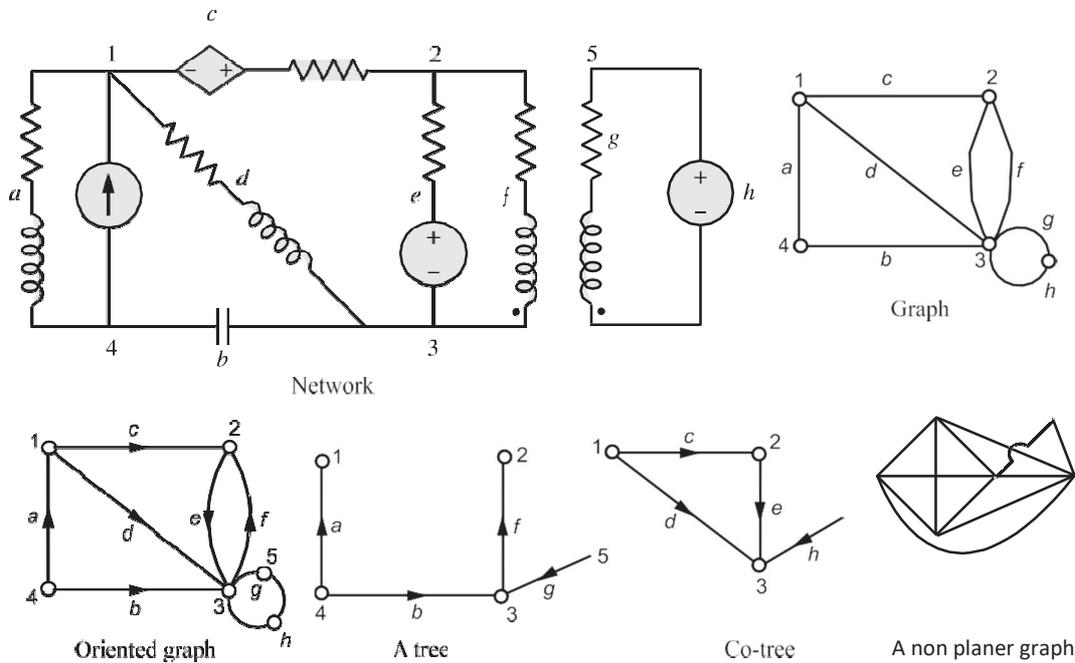

Figure 2.1
**Fig. 2.1 shows a typical network with its graph, oriented graph, a tree, co-tree and a non-planar graph**